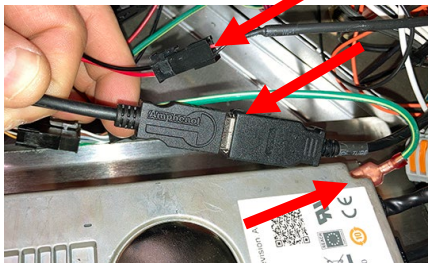

Figure 6
6. Disconnect the ground cable and the speaker cable and the USB cable (if applicable) (see Figure 6).